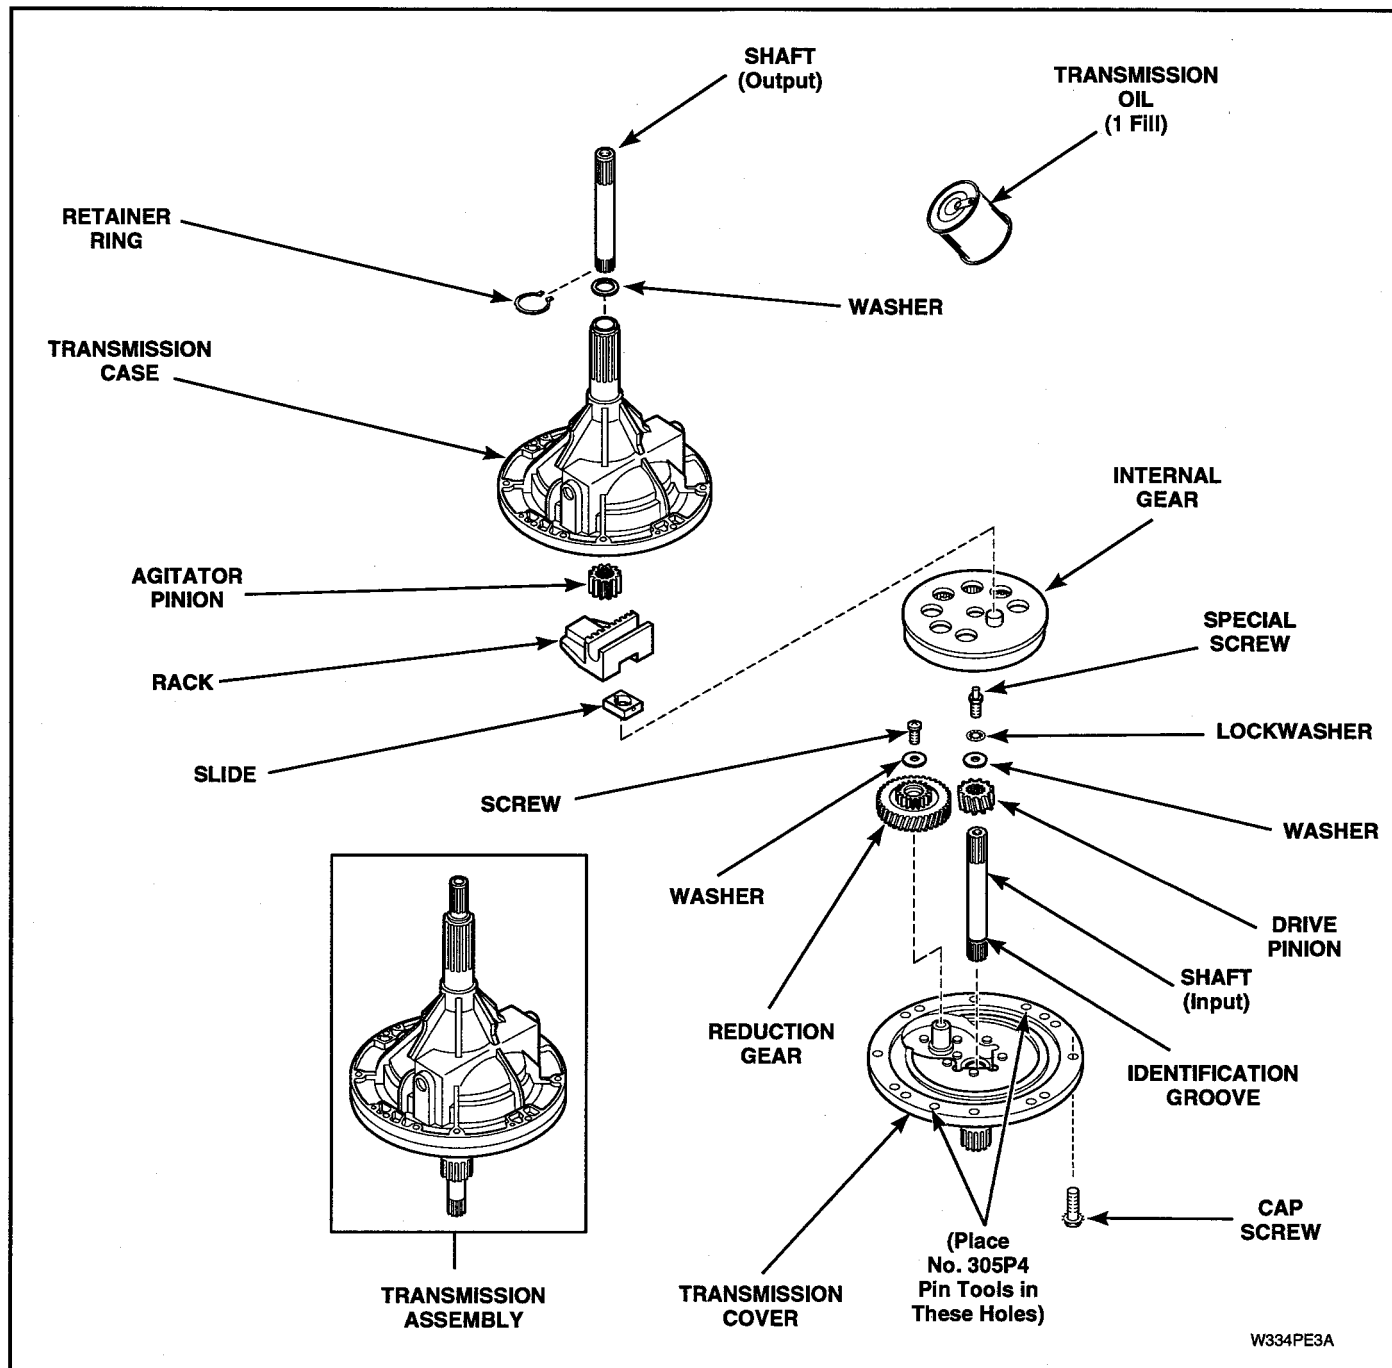

Figure 5-41
### TO DISASSEMBLE TRANSMISSION ASSEMBLY (Refer to Figure 5-41 for assembly sequence)
**IMPORTANT:** End of shaft with identification groove must be facing outward. See Figure 5-41. This is the end that will mate with the helix.
**NOTE:** A transmission pin tool, Part No. 305P4, must be used to align the cover and case when reassembling the transmission after repair. The transmission pin tool must be used in sets of two and placed in the same holes shown in Figure 5-41. Both transmission pin tools must be left in place until all eight screws and nuts have been installed and tightened firmly, then remove the two pins.